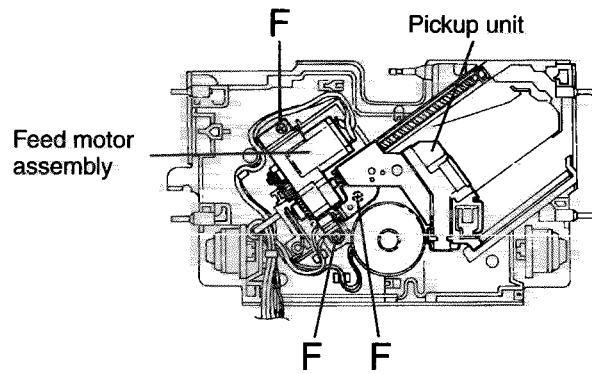

Fig.10
6. Remove the three screws F retaining the feed motor assembly and take out this motor assembly (See Fig.10).